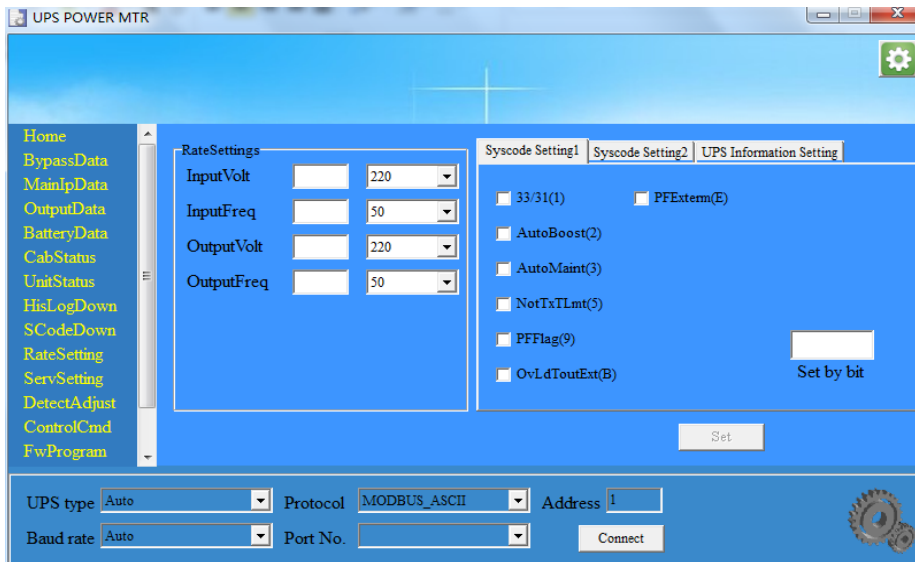

Fig. 3-14 Settings
- c. Power on; Use MTR configure as Fig. 3-14. Change rated capacity and use capacity to 20, enable the Out 3/1 option. After that, power off and power on the UPS.